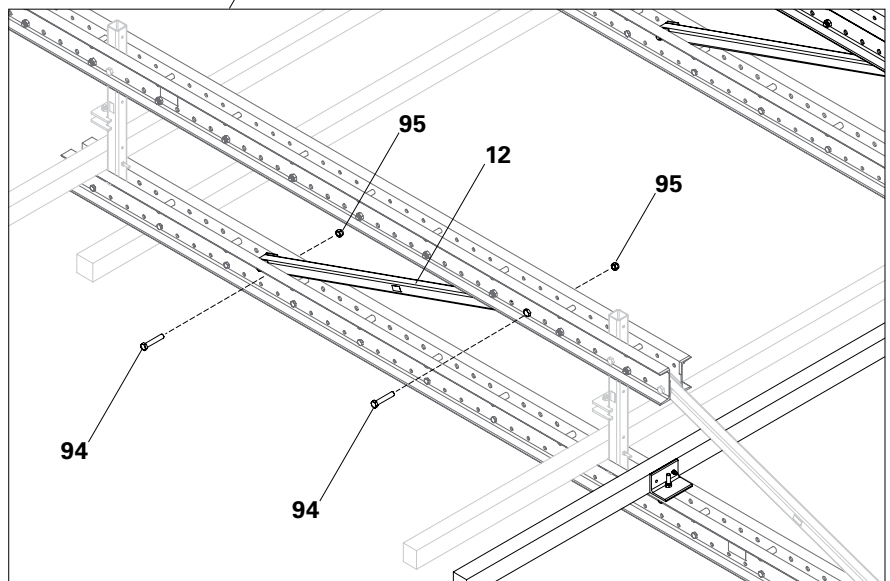

Fig. C1.09a
5. Install middle Diagonal Strut (12) using bolts M24 x 130 (94) and nuts M24 (95). (Fig. C1.09a)